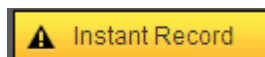

Figure 5-11
- Section 5: Instant record button. Click it, the button becomes yellow and system begins manual record. See Figure 5-11. Click it again, system restores previous record mode.